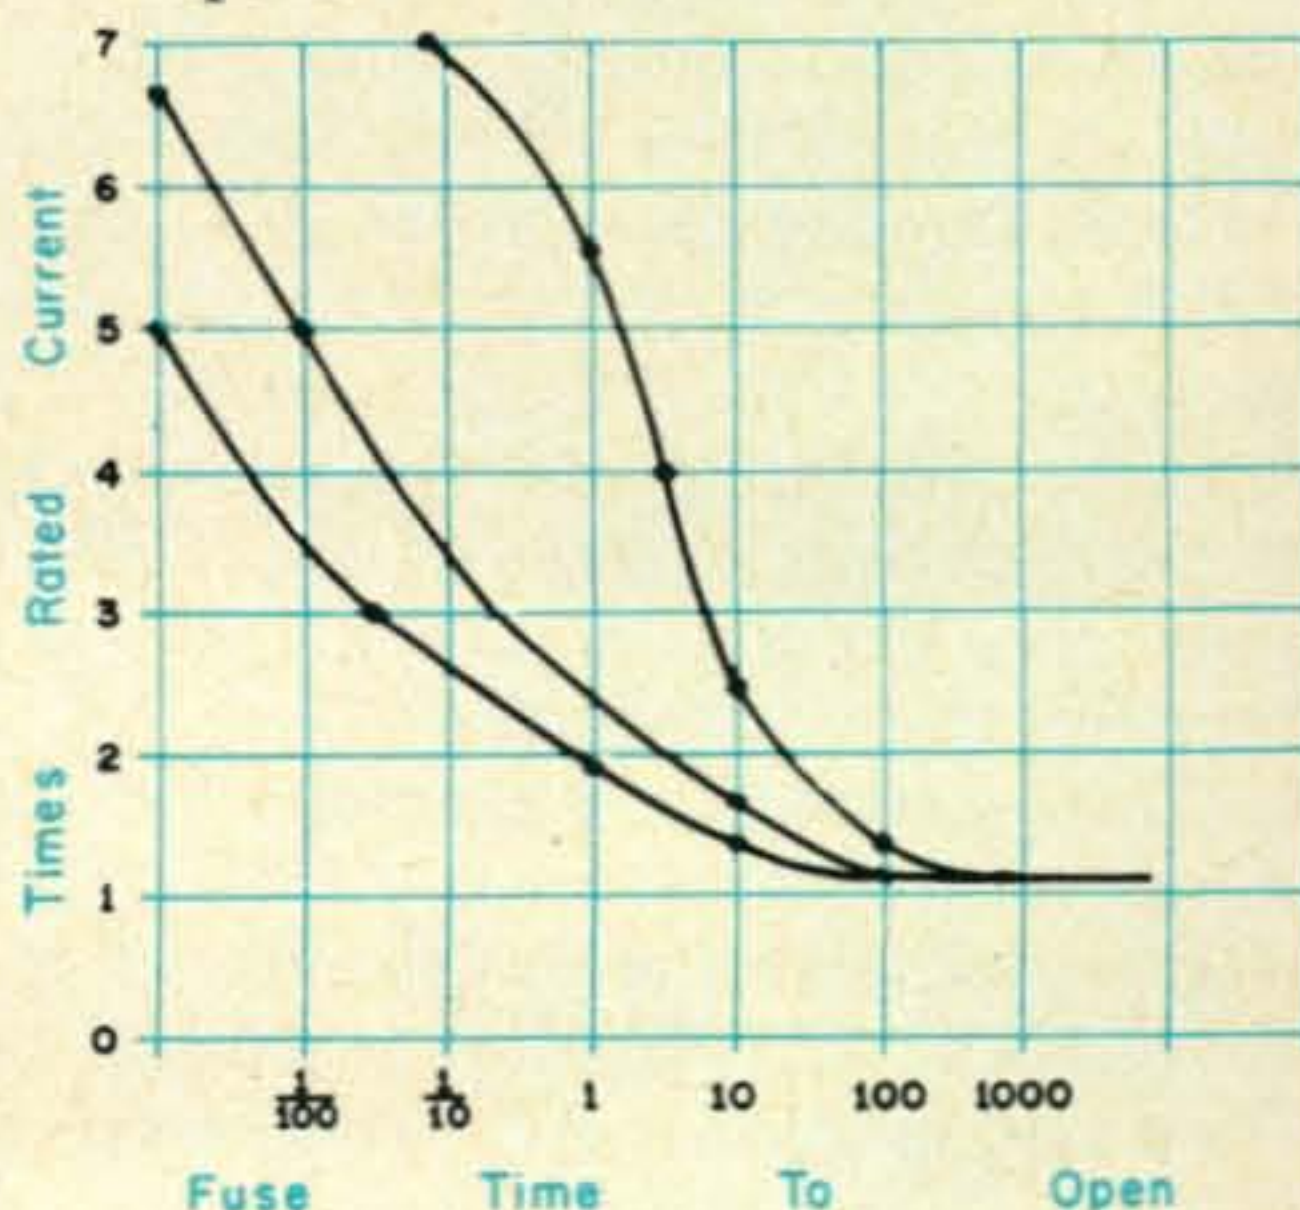

Fig. 2—Typical fuse characteristics. Note that type opens at its rated current but only after specific time at some overcurrent.
Fuses are certainly the most common overcurrent protective device and the most basic thing to note about them is that their rating is the current which can flow through them indefinitely. (This statement is not meant to insult anyone's intelligence but some people still think a fuse "blows" when its rated current flows.) The amount of overcurrent to open the fuse in a given time depends upon the fuse type. Figure 2 shows the general characteristics of the various types of "filament" fuses, a glass vial with two end caps between which the fuse filament is connected. These are certainly the most common type used to protect electronic equipment, although the total variety of fuse types avail-
The slow opening fuse is designed to handle devices, usually heavy power supply transformers in the amateur case, that have high initial surge currents. All too often builders use an oversized regular fuse to handle the surge but then are left with poor continuing overload protection. As can be noted from fig. 2, the slow type fuse is ideally suited for the power transformer situation where a surge of 6-7 times normal current flow lasts for a fraction of a second. For instance, if a 1 ampere slow type is used where a transformer load is 1 ampere or slightly less, it should withstand the initial surge. If some defect develops and the load increases later on to 2 amperes, the fuse will open in 15-20 seconds. If, on the other hand, a 3 ampere regular fuse were used to handle the surge, the operating current could increase up to 3 amperes and the regular fuse would *never* open!
Unlike fuses, circuit breakers do not have the wide range of operating characteristics associated with fuses. One of the simplest types of thermal circuit breakers is shown in fig. 3 (A). Excessive current flow will cause the bi-metallic element to deflect and open the circuit. This action is not instantaneous, however, and this basic type of circuit breaker has a built-in type of time delay which will cause the breaker to open at a time period somewhat inbetween that for the slow action and regular action fuses, as shown in fig. 2. It is almost impossible to quote any average time delay as they vary considerably from manufacturer to manufacturer. The basic rule remains the same, however, in that the current rating of the breaker is that which can flow indefinitely without causing any breaker action.
Although rarely seen in amateur equipment because of its expense, there is another variation of the thermal breaker known as the magnetic type (fig. 3(B)). The coil is wired in parallel with the breaker contacts. Should a sudden high onrush of current be encountered, the solenoid coil will force a plunger to open the main breaker contact. This breaker action is considerably faster than that provided by the bi-metallic element alone since the latter has a definite thermal inertia. In general, such breakers have a reaction time somewhat between those of the regular and fast fuses as shown in fig. 2 and are usually only available in toggle switch types.